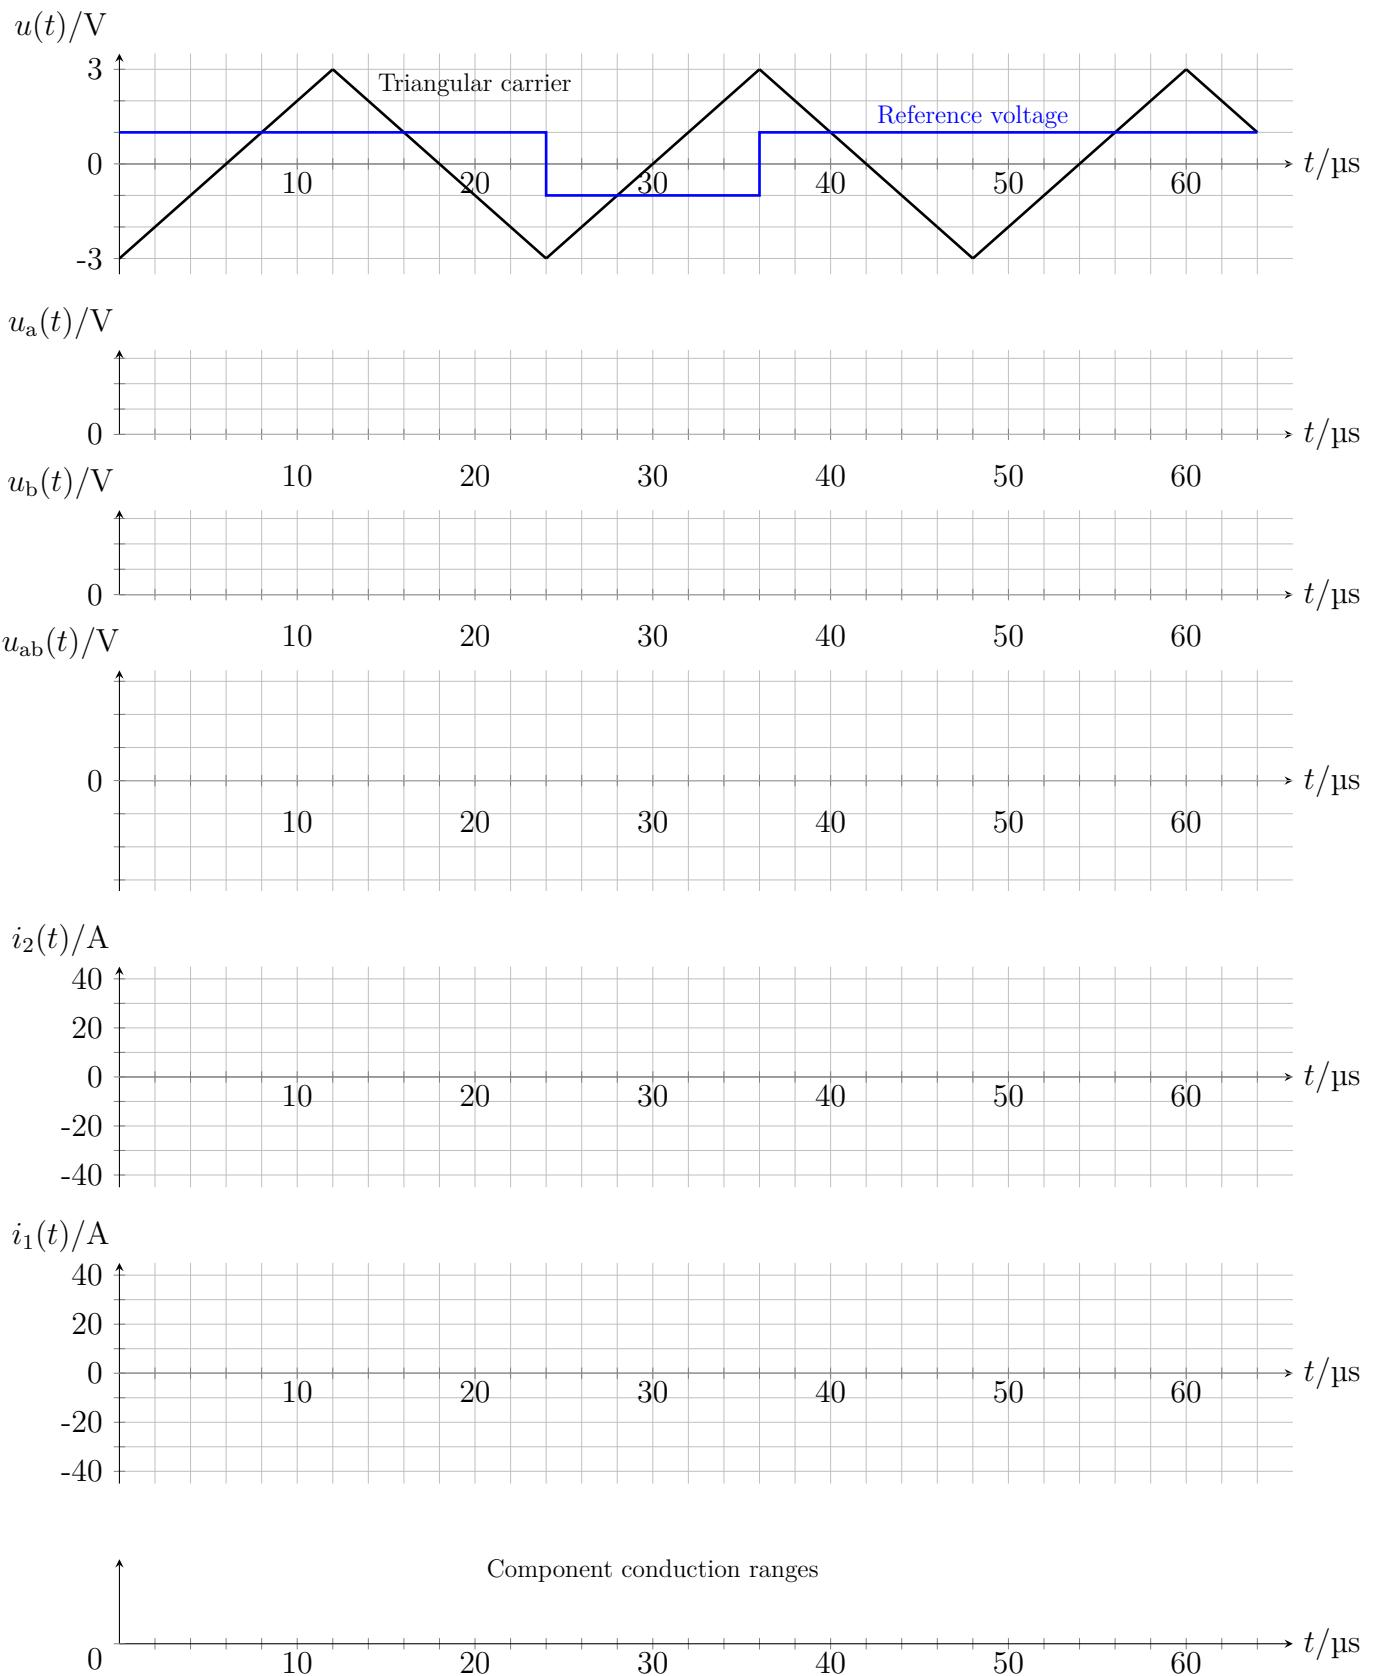

Figure 3: Relevant voltage and current signals of the four-quadrant converter.
2.1 Add the voltage signals of $u_a(t)$, $u_b(t)$ and $u_{ab}(t)$ to the diagram in Fig. 3 and complete the axis scaling of the ordinates. [3 Points]